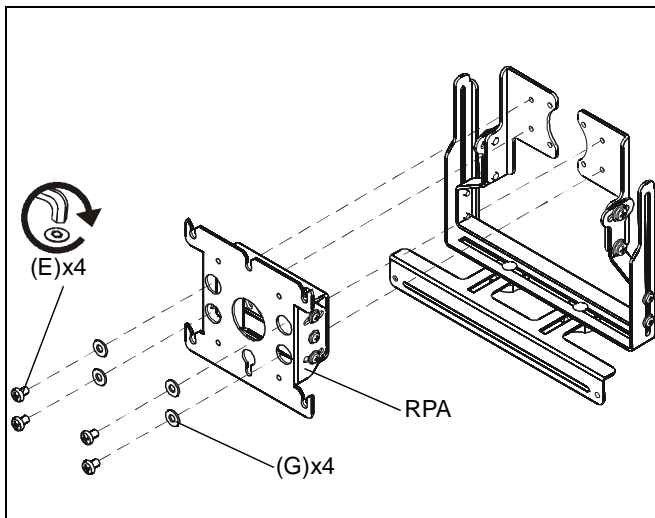

Figure 2
1. Attach RPA to PAN2 (A) using four 1/4"-20 x 3/8" button head cap screws (D) and four 6mm flat washers (G). (See Figure 2). Proceed to **Attaching Lens Bracket to PAN2**.